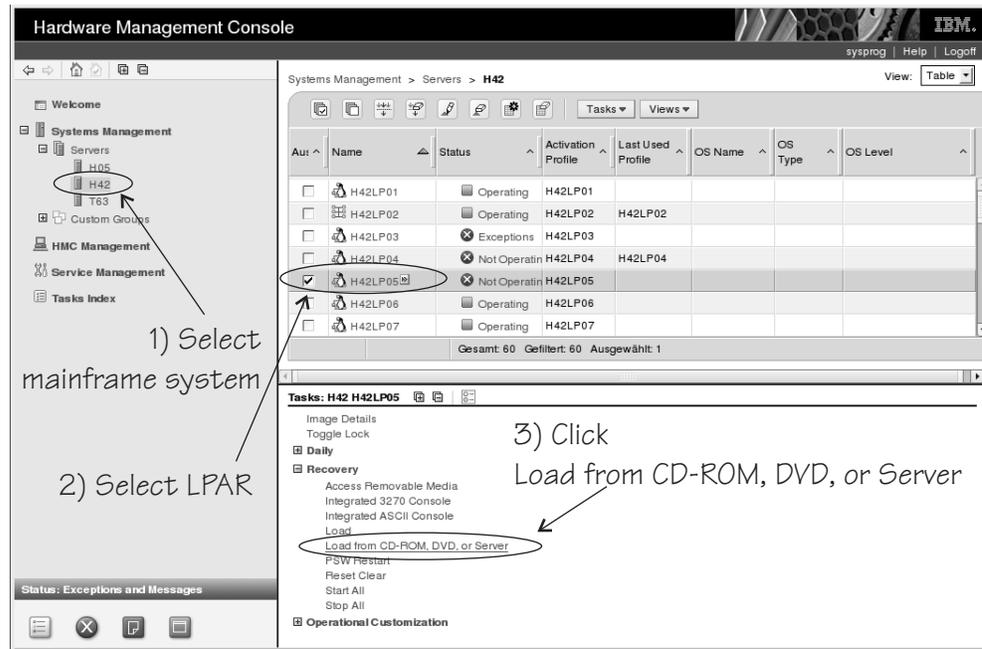

Figure 67. Load from CD-ROM, DVD, or Server task on the HMC
3. In the **Tasks** area, expand **Recovery** and click **Load from CD-ROM, DVD, or Server** (see Figure 67).